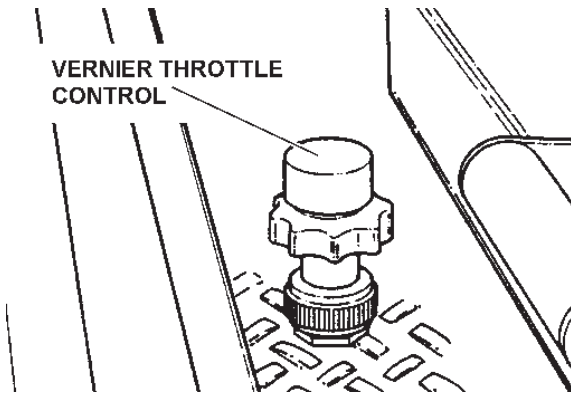

FIGURE 3.3
- 3.4** The Vernier Throttle Control, located at the left control station, is used to vary the speed of the truck engine to govern the maximum speed of the winches and cylinders. See Figure 3.3.
3A.5 The Vernier Throttle Control, located at the left control station, is used to vary the speed of the truck engine to govern the the maximum speed of the winches and cylinders. Refer to Figure 3.3.